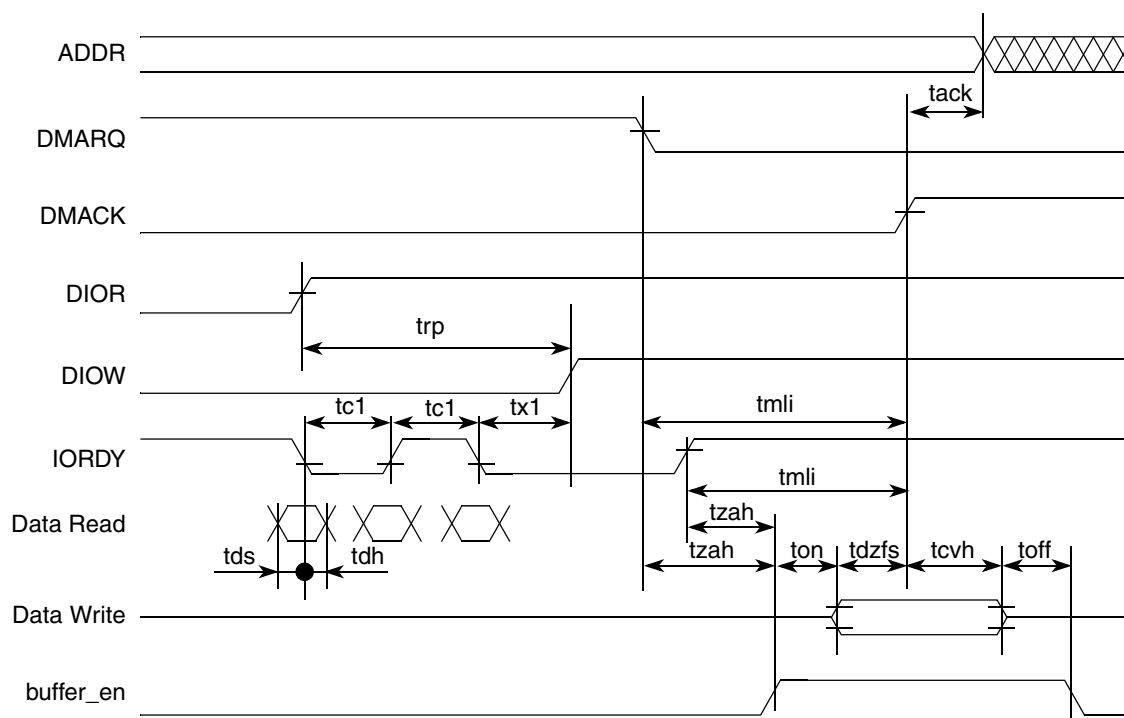

Figure 29. UDMA In Host Terminates Transfer
- Figure 29 gives timing for host terminating UDMA in transfer